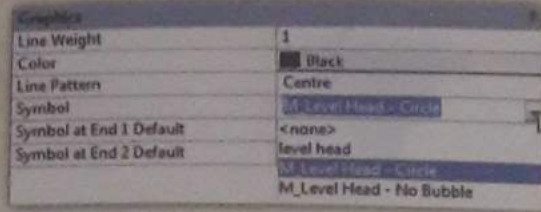

Figure 25: Level head-type properties
6. In the type properties box » under graphics select the symbol 'level head' » click ok (Figure 25).